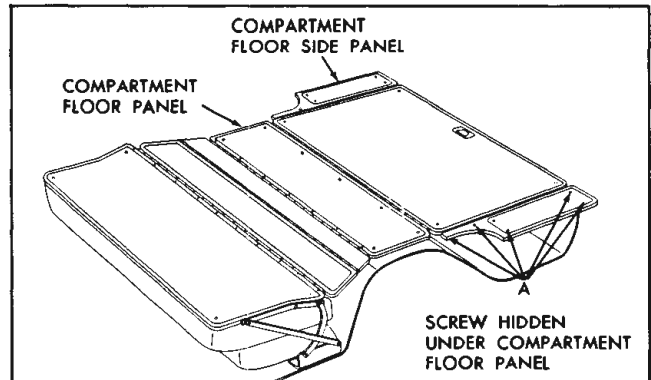

Fig. 18-11 Compartment Floor Side Panel Assembly (Right or Left)
2. Remove screws securing compartment floor side panel to side panel support as shown at "A", Fig. 18-11 and remove panel assembly from body.